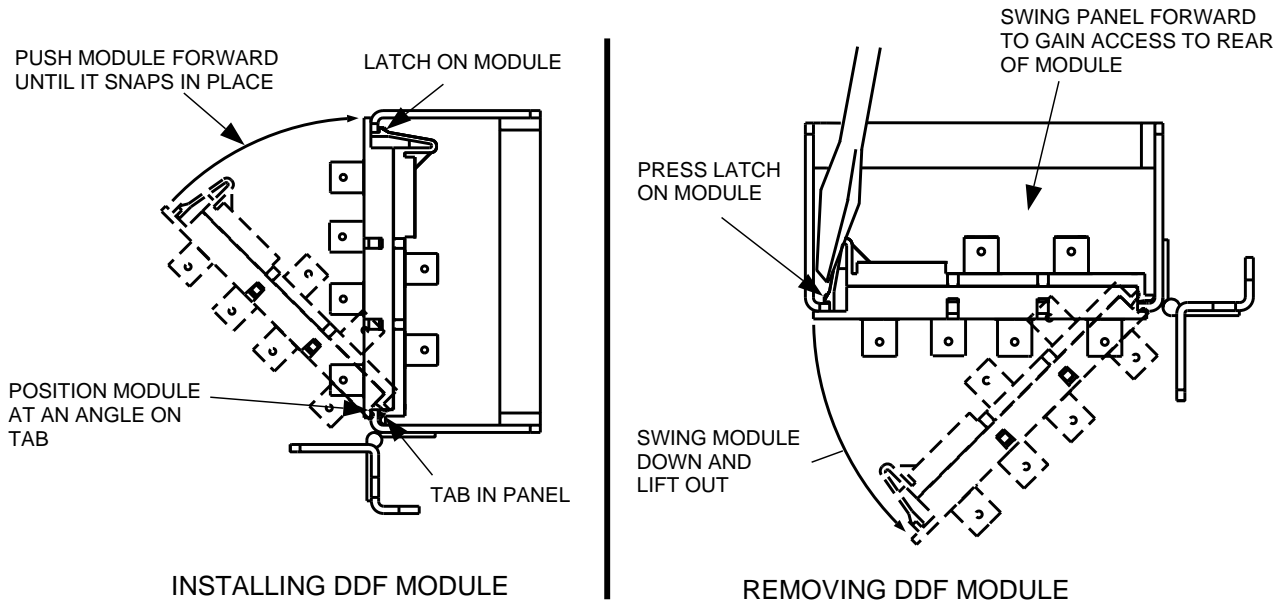

Figure 2. Installing and Removing the DDF Module
2. Install snap-in DDF modules into the panel starting at position number 1 and working to the right. Push modules into the opening until latch on block "snap-locks" into panel, as shown in Figure 2. (Figure 2 also shows DDF module removal.)